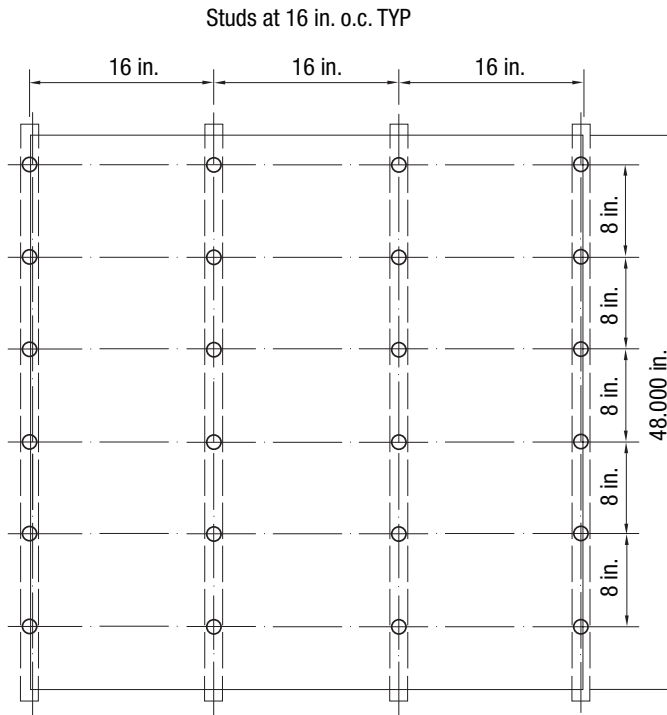

FIGURE 5
- Recommended fastening pattern is 8 in. vertically and 16 in. horizontally (aligned over studs for proper anchorage) resulting in 24 fasteners per full panel as indicated in Figure 5. A minimum of one fastener per sq. ft. is required for concrete/masonry backing or if an alternate stud/girt spacing is used. Use of fasteners other than those supplied or approved by Glen-Gery will void the system warranty.